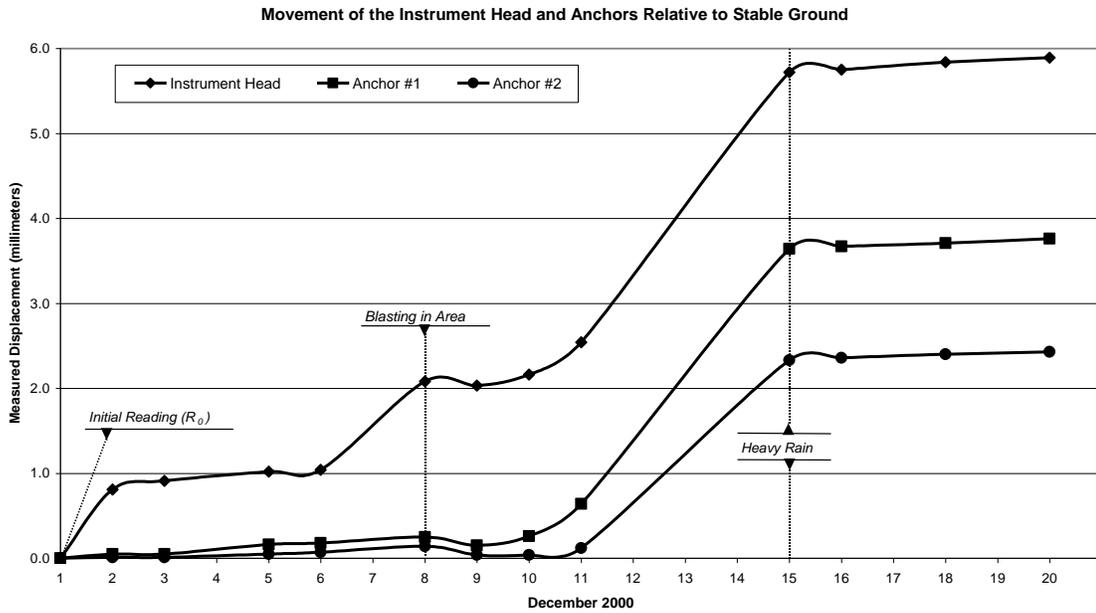
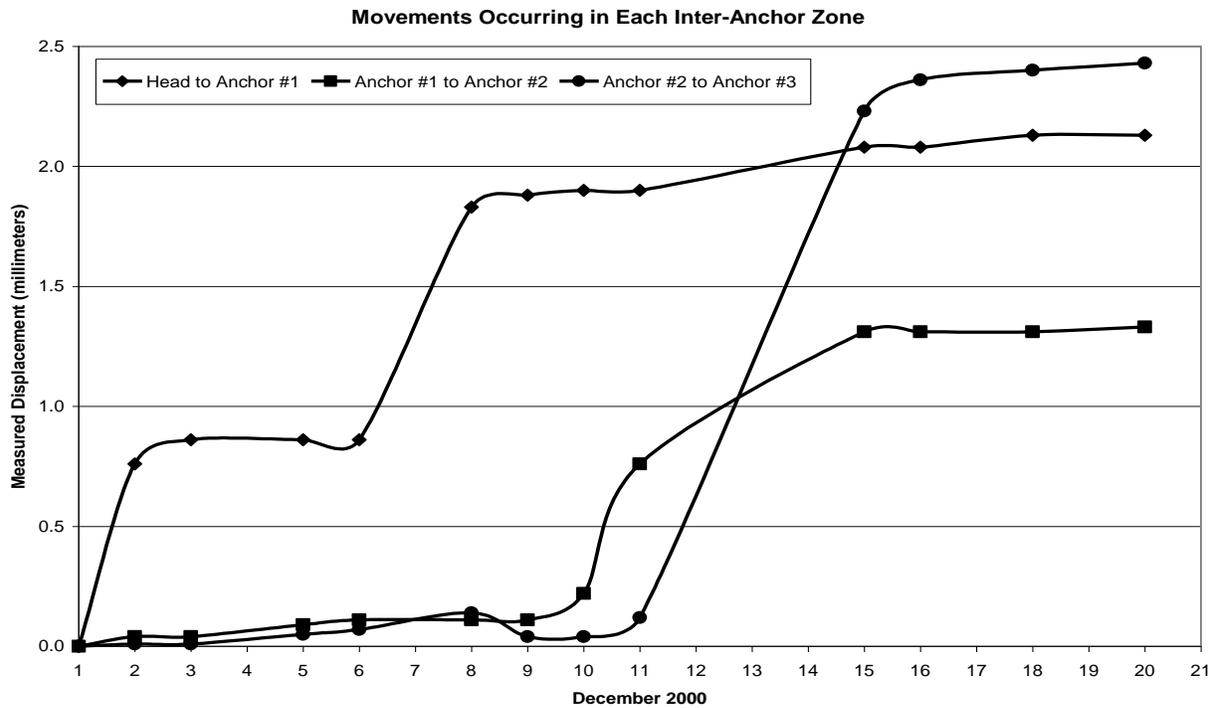

Figure 4. Movement of the Head and Anchors Relative to Anchor 3 in Stable Ground
Figure 5 Movements Occurring in Each Inter-Anchor Zone
- 6.1.3 The data shown in Table 3 could be plotted and shown in a graph like the one shown in Figure 4.
Inspection of the plot shows that initial movement occurred in the zone closest to the surface during the first 3 days and again on day 8 following blasting in the area. On day 15, following a heavy rainfall, deep-seated movements occurred in the zone between anchors 2 and 3 and also in the shallower zones. Movements occurring in any inter-anchor zone can be inferred from the spacing between the individual plots of Figure 4, or they can be plotted separately as shown in figure 5